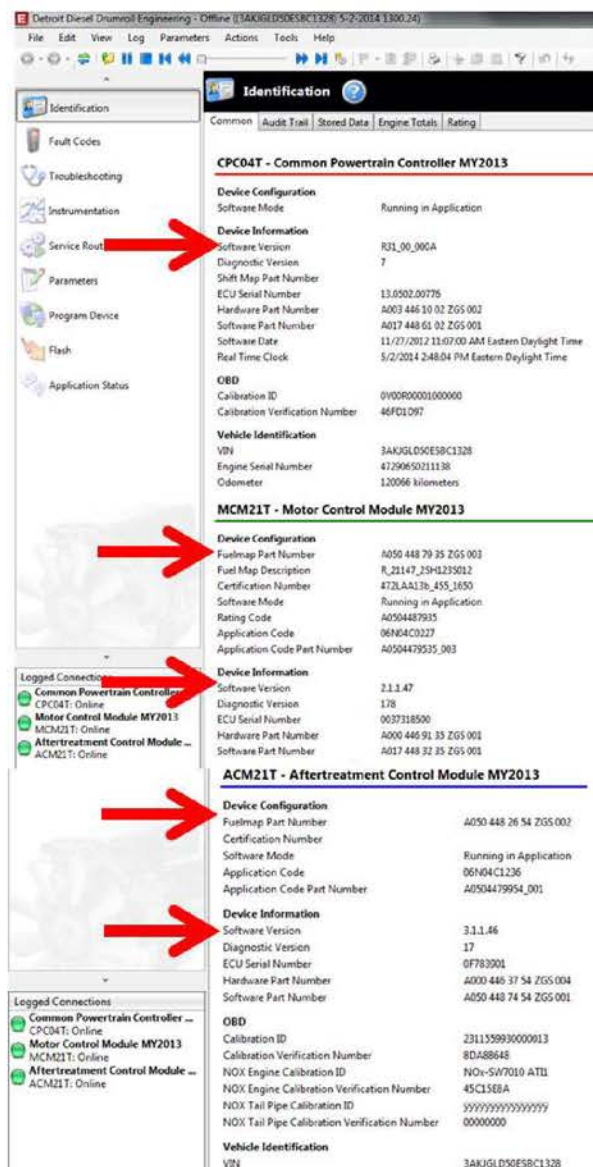

Figure 1 – DiagnosticLink Identification Screen
5. On the Identification screen, check the current software and fuel map levels. Listed below are the **MINIMUM** levels required. See Figure 1 for an example of the Identification screen.